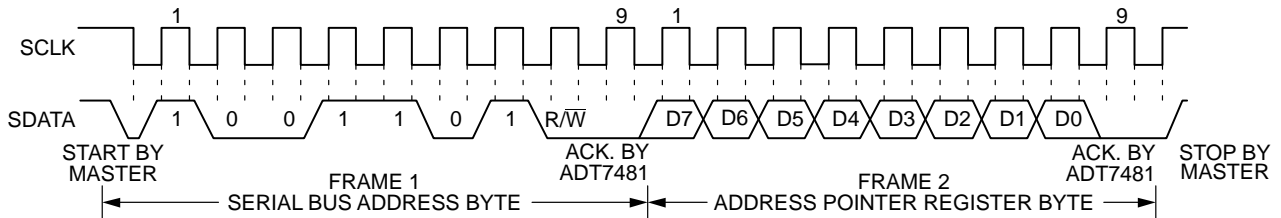
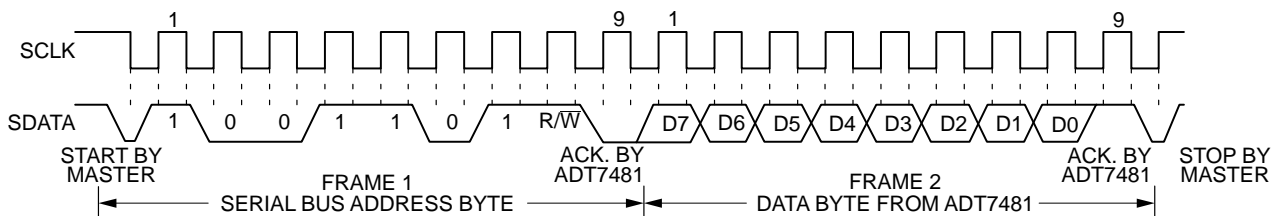

Figure 16. Writing to the Address Pointer Register Only
Figure 17. Reading Data from a Previously Selected Register
1. If the address pointer register value of the ADT7481 is unknown or not the desired value, it is necessary to set it to the correct value before data can be read from the desired data register. This is done by performing a write to the ADT7481 as before, but only the data byte containing the register read address is sent, as data is not to be written to the register. This is shown in Figure 16. A read operation is then performed consisting of the serial bus address,  $R/\overline{W}$  bit set to 1, followed by the data byte read from the data register (shown in Figure 17).
2. If the address pointer register is already at the desired address, data can be read from the corresponding data register without first writing to the address pointer register, and the bus transaction shown in Figure 16 can be omitted.